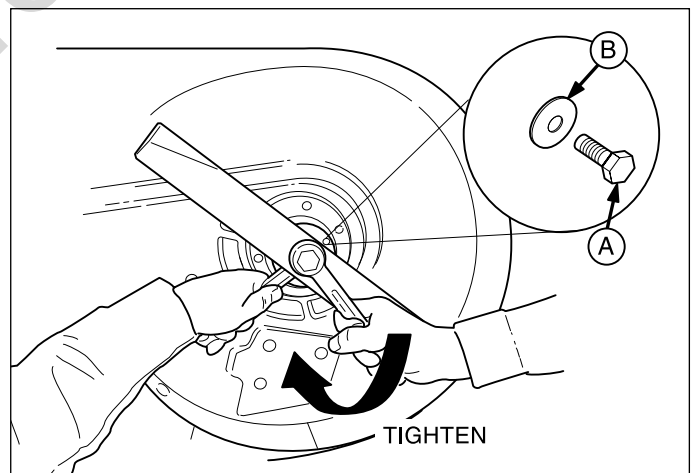

Figure 9. Installing The Blade
- Reinstall each blade with the tabs pointing up toward deck as shown in Figure 9. Secure with a bolt and flat washer and torque bolts to 70 ft.lbs. (94 Nm).